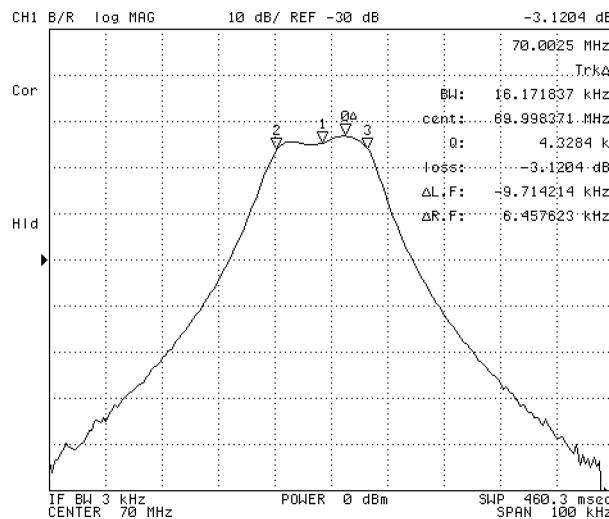

Figure 8-11. Bandwidth Measurement Using Width Function
4. Press **[] (3) [X1]** to enter -3 dB.
As shown in Figure 8-11, a pair of sub-markers appear on both sides of the reference marker, being lowered by the specified number of levels; also, another sub-marker is displayed in the middle between the two sub-markers. The bandwidth (BW), center frequency (cent), Q factor (Q), insertion loss (loss), and left and right hand bandwidth from the center frequency ($\Delta L.F$ and $\Delta R.F$) are displayed at the upper right corner of the grid.